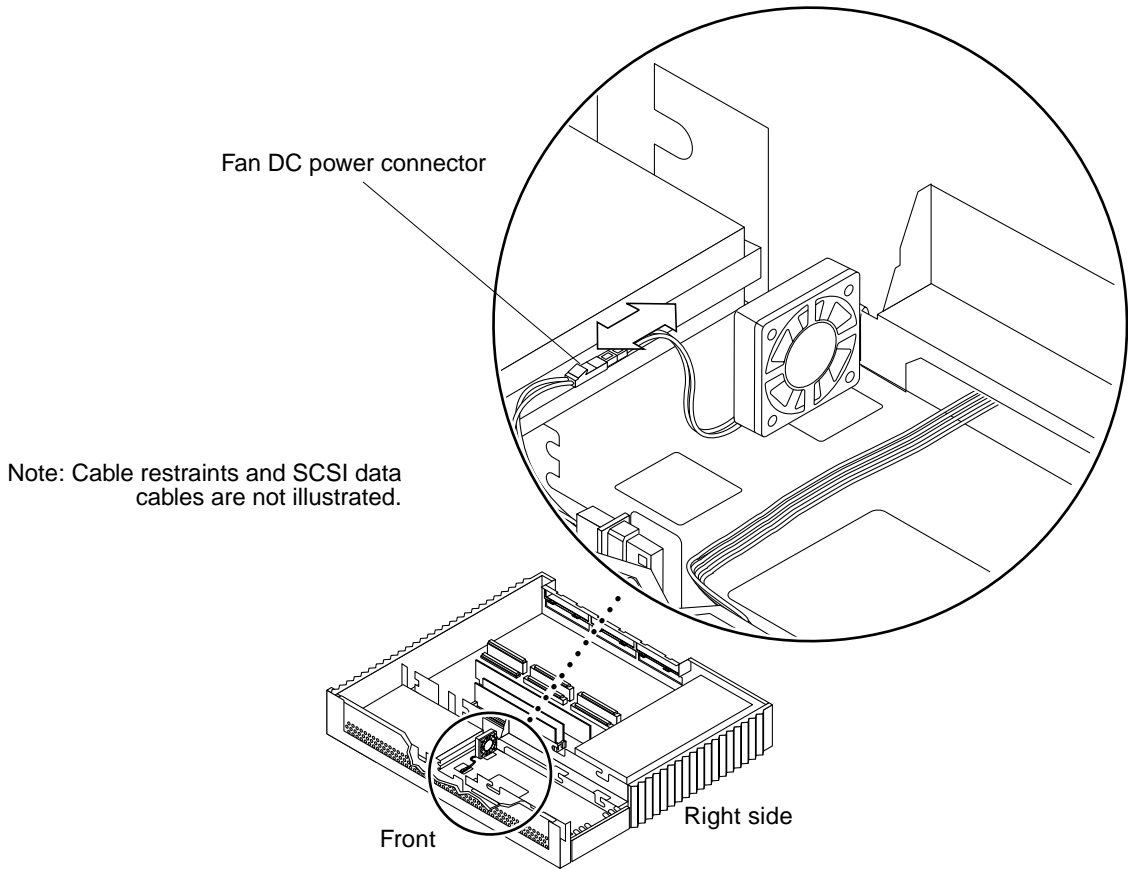

FIGURE 8-10 Disconnecting the Fan DC Power Connector
3. Disconnect the fan DC power connector (FIGURE 8-10).